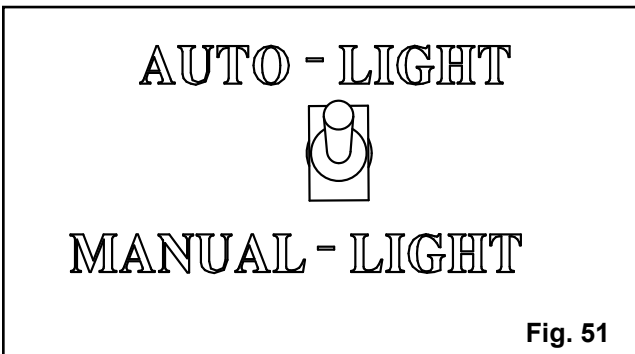

Fig. 51
6. Flip the Igniter Switch up into the “AUTO-LIGHT” position, Fig 51.